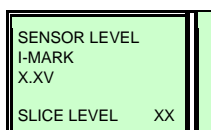

Figure 6-15, Slice Level Menu Screen
7. Advance to the Slice Level menu screen (Figure 6-15).